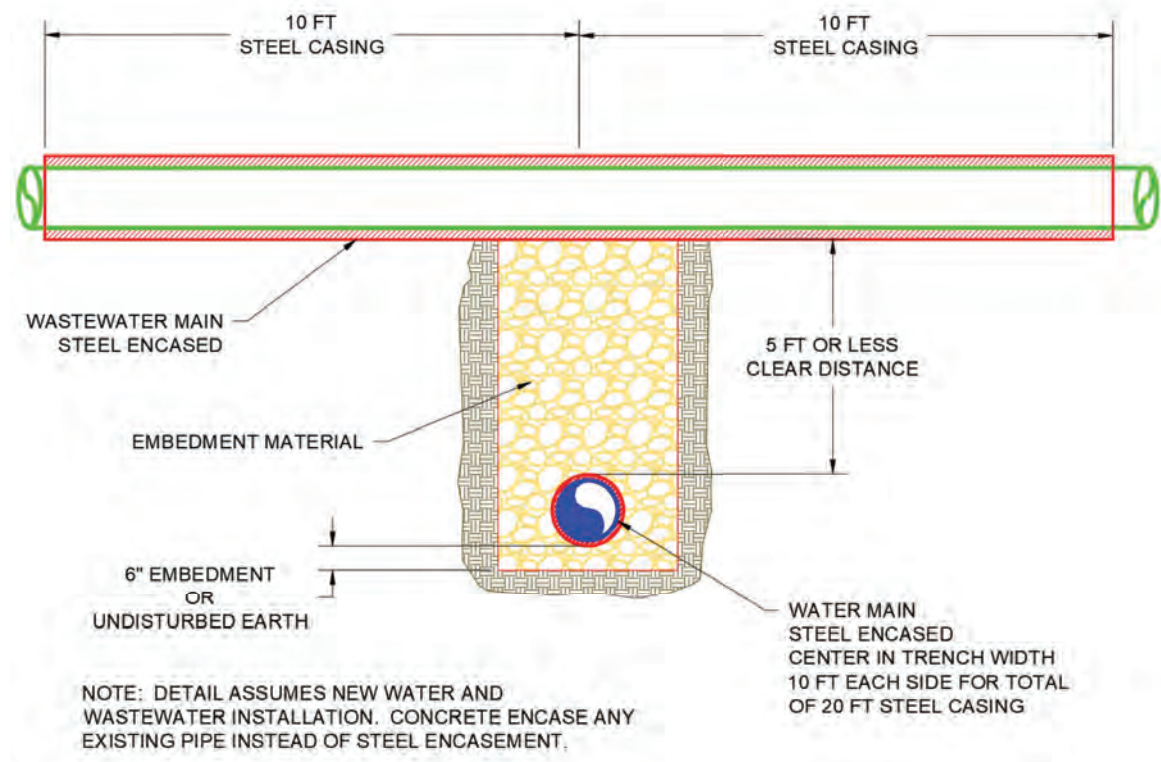

Figure 19 - Sewer Crossing Water
- 4.7. When a public wastewater main crosses the top of a public water main, steel encasement of both the public water main and public wastewater main is required a minimum distance of ten (10) feet each side of crossing. Embedment material or “Type-A” aggregate stone backfill is required under the crossing pipe and above the casing of the public water main. These crossing requirements must be indicated on all design drawings submitted for review and approval. If there is more than five (5) feet separation between the public water and public wastewater main, steel casing is only required for the public wastewater main. See Figure 19.